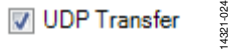

Figure 25. UDP On/Plot Off Mode
- UDP on/plot off, where the **UDP Transfer** checkbox is checked (see Figure 25).